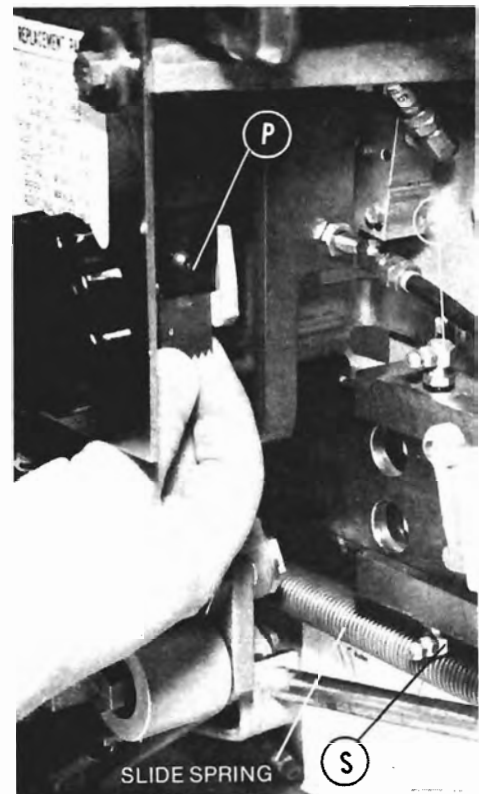

FIGURE 10 BLADE REPLACEMENT
Blade Replacement - Refer to Figure 10.
- E. Slide - refer to Figure 10. Check and lubricate at grease fittings (S) as follows: